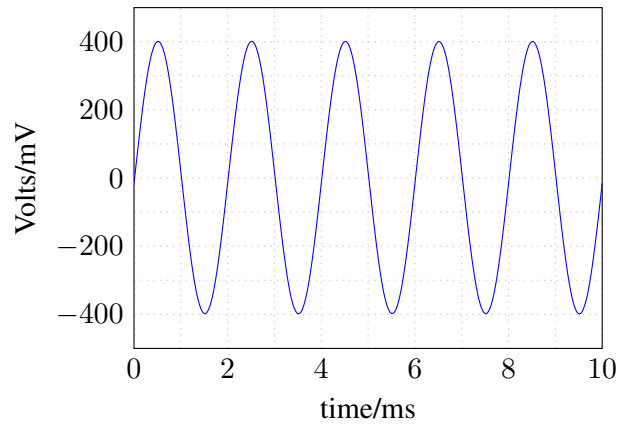

Fig. 37: 400 mV amplitude on FLT of the channel filter board.
9. Adjust TR3 for a 400 mV signal amplitude on **FLT** (Fig. 37).